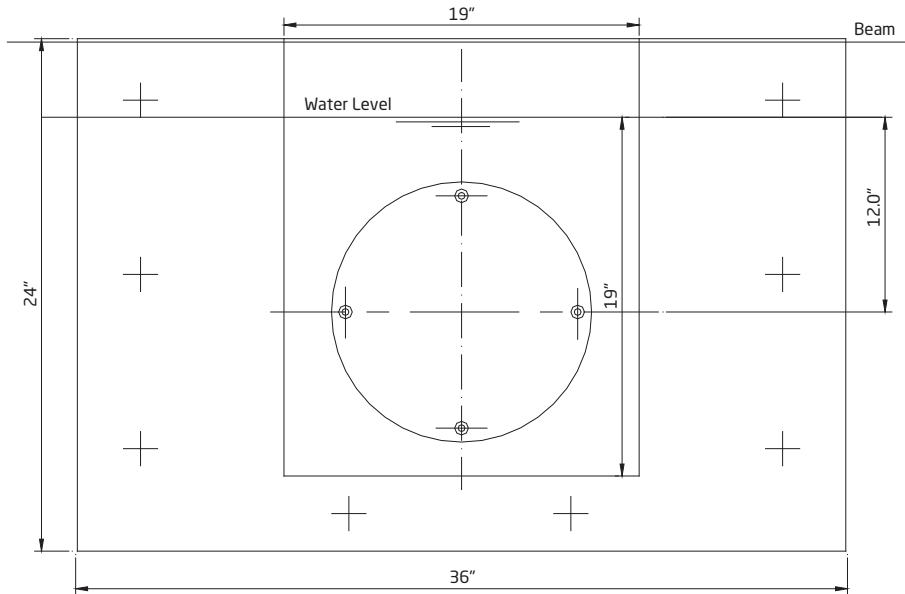

Figure 9
4. Taking the 2' x 3' x 1/4" plywood, set its top edge even to the cap of the pool wall. In some cases a larger piece of plywood maybe needed to cover the hole completely. If plywood covers the hole completely, mark the water line on the plywood. From this line, layout and drill holes in plywood for the four (4) M8 x 30 screws (part #52) for gunitite cover, and the eight (8) 1/4" lag screws. (See Figure 9)